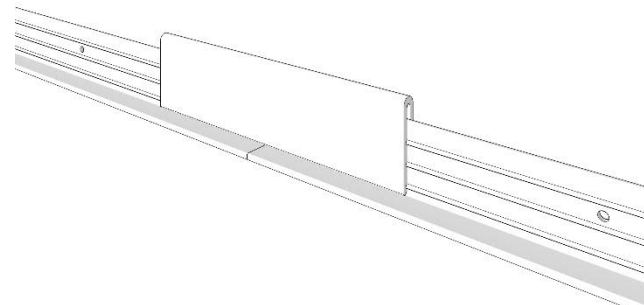

FIG. 8
5. Install the **Splice Clamp** at the ends of the **Mainrail** (**Splice Junction**) to extend lengths to reach opposite wall. FIG. 8